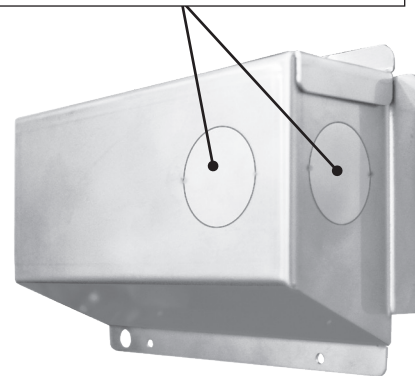

Fig. 30-2 Junction box knockouts
2. Remove the junction box located on the rear of the unit. Select and remove a knockout from the junction box that will best suit your electrical setup. Route the wiring through the selected knockout opening. See Fig. 30-2.